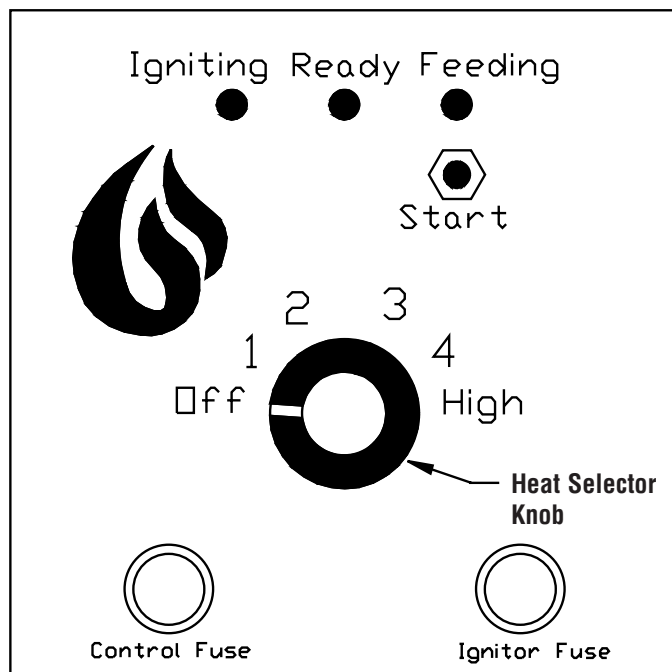

Figure 42
1. Turn the heat selector knob (see Figure 42) to the heat level desired - 1 through high - and the ready light will turn green.